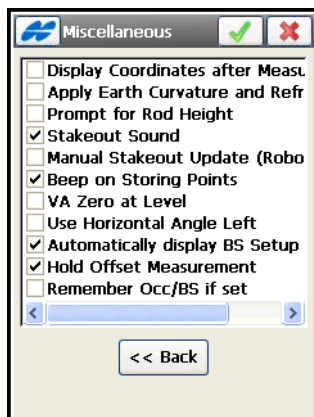

Figure 3-75. Miscellaneous
- **Next** – opens the *Miscellaneous* screen (Figure 3-75 on page 3-78).
The *Miscellaneous* screen is used to customize the user interface (Figure 3-75 on page 3-78):